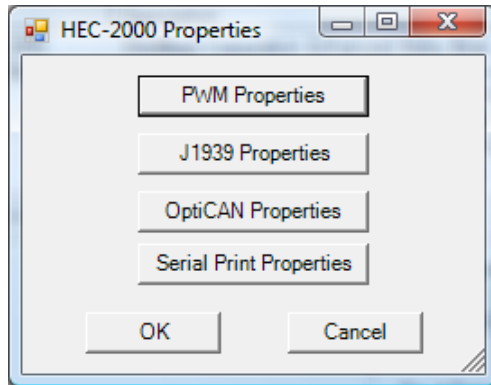

Figure 2.8 - HEC-1000 Properties Window
2. Click the **PROPERTIES** button. The HEC-2000 Properties Window will open. Refer to Figure 2.8.